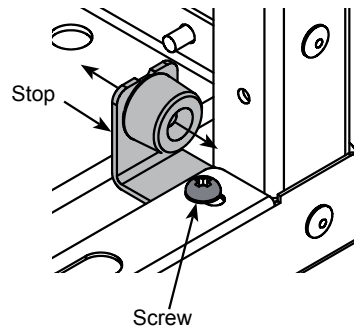

Figure 7
1. To adjust, loosen the Phillips screw slightly with a screwdriver. **Figure 7.**